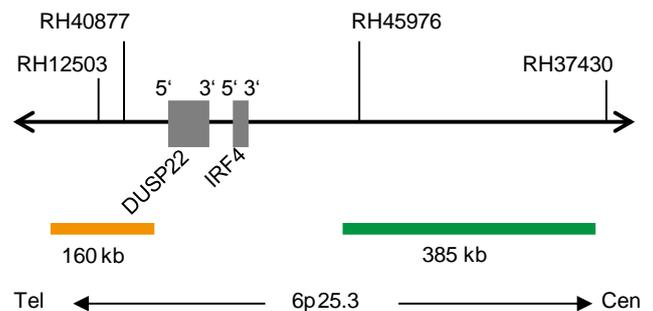

Fig. 1: SPEC IRF4,DUSP22 Probe map (not to scale)
- ZyGreen (excitation 503 nm/emission 528 nm) labeled polynucleotides (~10 ng/ μ l), which target sequences mapping in 6p25.3* (chr6:557,233-940,968) proximal to the IRF4,DUSP22 gene region (see Fig. 1).
- ZyOrange (excitation 547 nm/emission at 572 nm) labeled polynucleotides (~4.5 ng/ μ l), which target sequences mapping in 6p25.3* (chr6:114,722-273,908) distal to the IRF4,DUSP22 gene region (see Fig. 1).